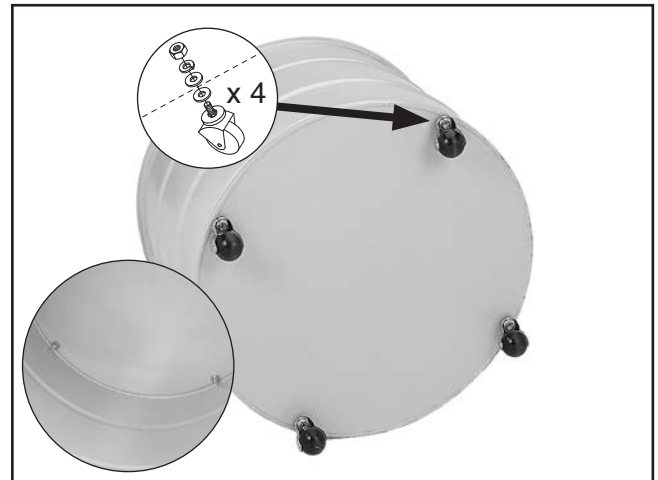

Figure 23. Casters attached to lower collection drum.
24. Attach casters to bottom of lower collection drum, as shown in **Figure 23**, with (4) $\frac{3}{8}$ "-16 hex nuts, (8) $\frac{3}{8}$ " flat washers, and (4) $\frac{3}{8}$ " lock washers included in box with casters.